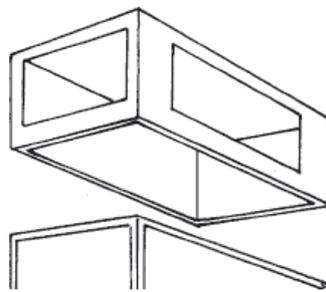

Fig.1
- a head of the “plenum” type with four lateral openings and adjustable fins which send the hot air in the desired direction (Fig.1).